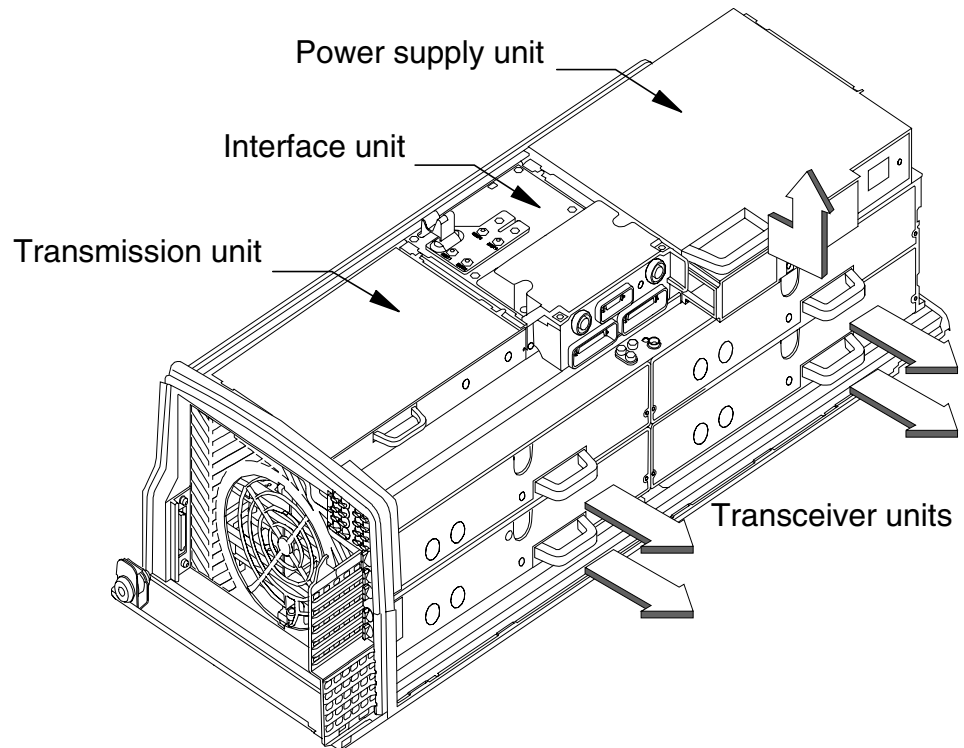

Figure 4. Removing the units
5. Slide the PSU unit out until it comes to a stop, then tilt the unit from the top and remove it (see Figure 4).
1. Slide the PSU into the appropriate slot. See Figure 4.
- Slide each TRX unit outwards to disengage it from the backplane connector and then pull the unit upwards to remove it (see Figure 4). Use the handle on the front of the TRX for pulling the unit.